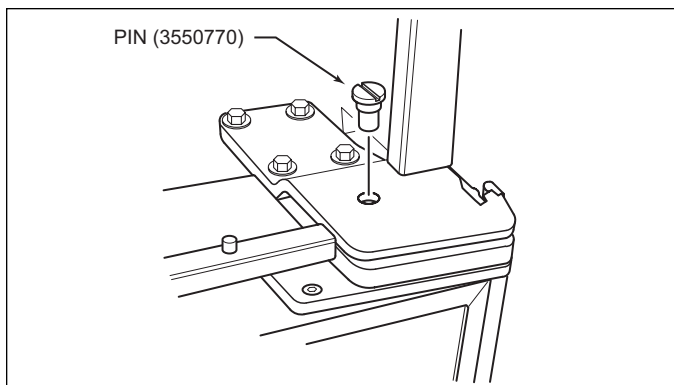

Figure 2-12. 90° Stop Pin (611, 650)
- With door closed, insert door stop pin down into threaded hole in top cabinet hinge and tighten (See Figure 2-12). Then, reinstall unit grille.